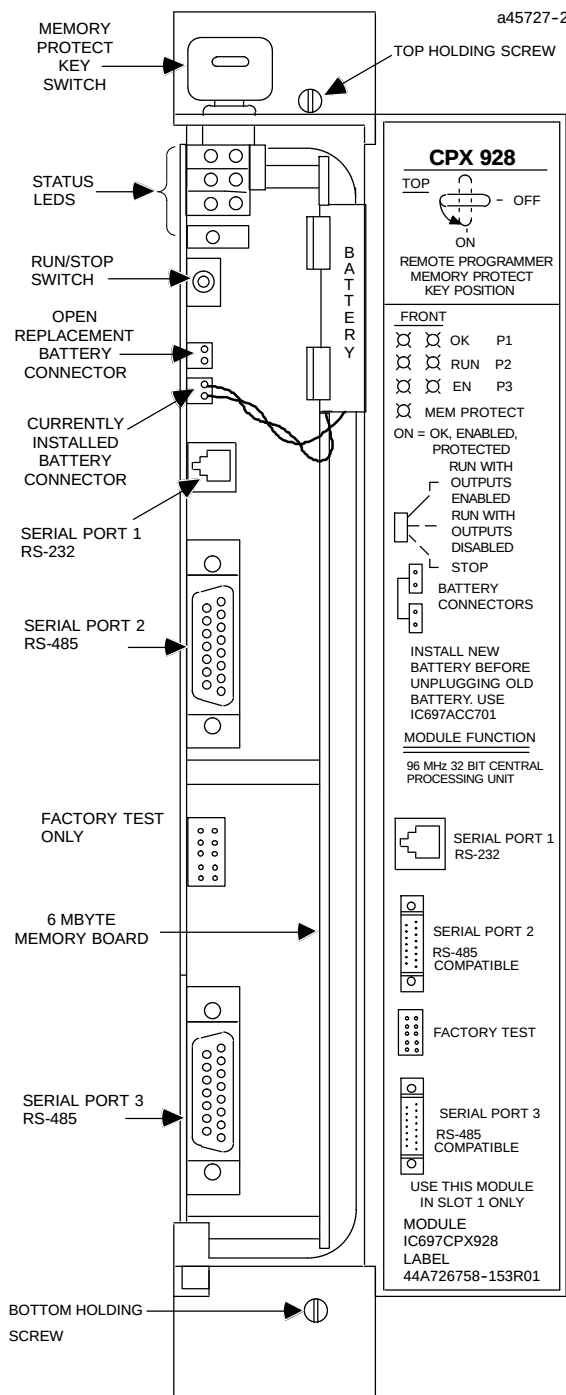

Figure 2. CPX 928 - Location of Major Features
- D Connect the battery to either of the battery connectors on the module (see Figure 2).
A lithium battery (IC697ACC701) is installed as shown in Figure 2. This battery maintains program and data memory when power is removed and operates the calendar clock. Be sure to install the new battery before removing the old battery. Specific indication of a low battery state is detailed in the applicable *Programmable Controller Reference Manual*.